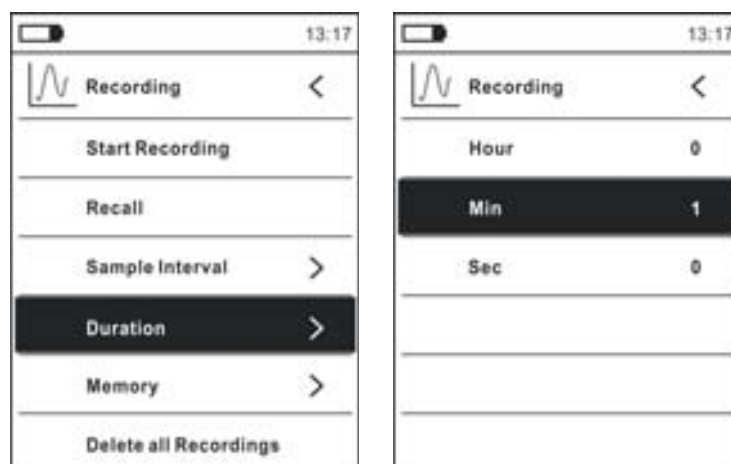

Fig. 36: Data logger function – Setting of recording duration
8. Select item “Duration” (see Fig. 36 – left side) and press key . The screen in Fig. 36 – right side appears on the display.